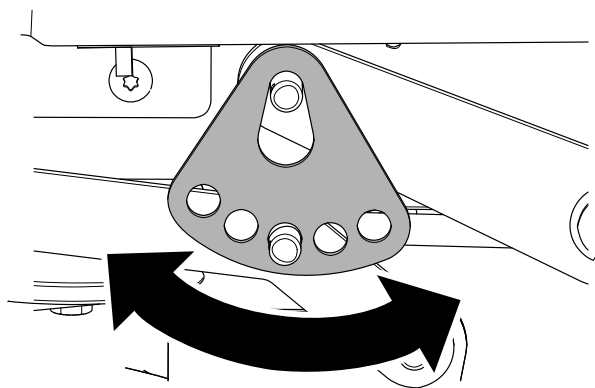

Figure 71
7. Rotate the height-of-cut plate to a different hole so that it supports the weight of the mower deck after you install the plate (Figure 71).
8. Install the washer and hairpin cotter (Figure 71).